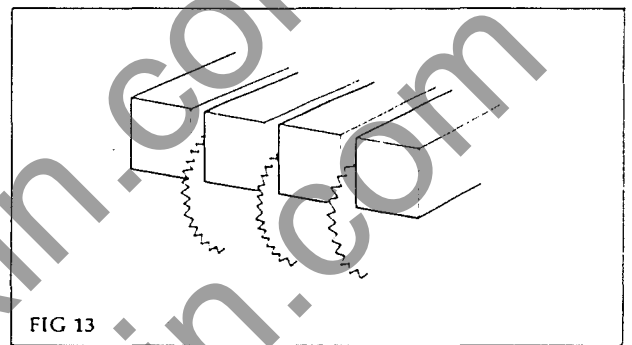

FIG 13
- Fig 13 Feed rolls drive chains tensioning
#### Splitting (Fig 13)